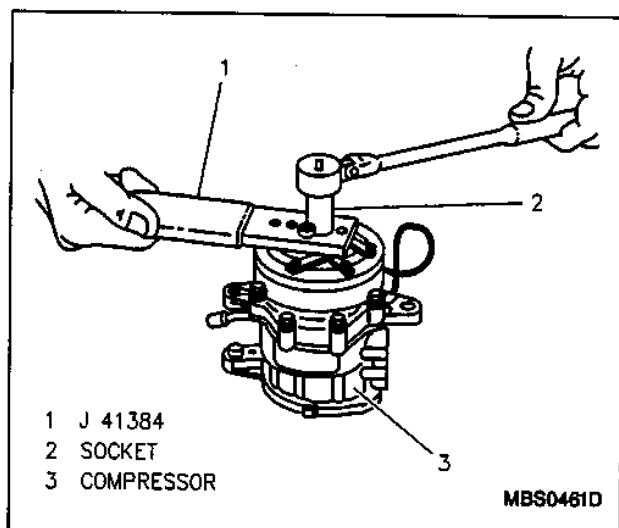

Figure 2—Removing Pressure Plate Nut
*Figures 2 through 5*
2. Pressure plate nut and washer from compressor drive shaft, using tool J 41384 (Figure 2).